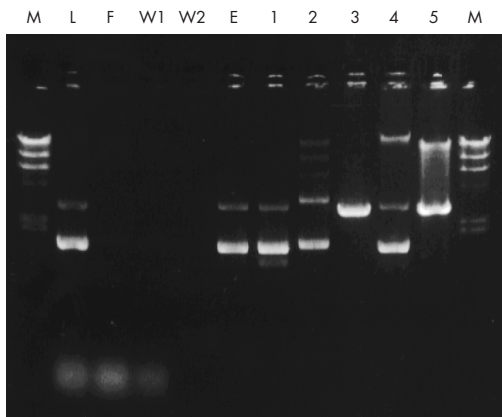

Figure 3. Agarose gel analysis of the plasmid purification procedure.
- a) Dimer form of plasmid Dimers or multimers of supercoiled plasmid DNA are formed during replication of plasmid DNA. Typically, when purified plasmid DNA is electrophoresed, both the supercoiled monomer and dimer form of the plasmid are detected upon ethidium bromide staining of the gel (see Figure 3, page 42). The ratio of these forms is often host dependent.
- b) Plasmid has formed denatured supercoils This species runs faster than closed circular DNA on a gel and is resistant to restriction digestion (see Figure 3, page 42). Do not incubate cells for longer than 5 min in Buffer P2. Mix immediately after addition of Buffer P3.
Run 2 μ l of each sample on a 1% agarose gel* for analysis of the fractions at each stage of the plasmid purification procedure. Figure 3 shows an analytical gel of the different fractions, together with examples of problems that can arise at each step. If you find that you have a problem with a particular step of the protocol, turn to the hints in the relevant section of the troubleshooting guide on pages 35 – 40. If the problem remains unresolved, or if you have any further questions, please call QIAGEN Technical Service.